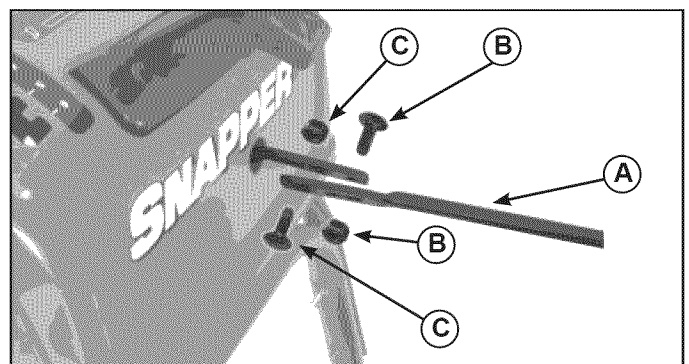

Figure 10. Split Rod Assembly
1. Take end of split rod (A, Figure 10) that is attached to top back side of chute assembly and align it to right side of split rod protruding from dash.
2. Insert two small carriage bolts (B) into square holes of split rod.
3. Install 1/4" lock nuts (C) and tighten hardware with a 7/16" wrench.